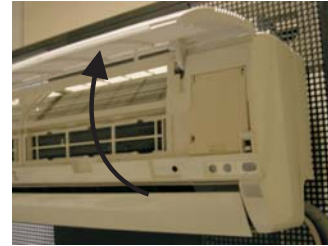

Fig. 2
2. Pull up the intake grille until it falls off. (Fig. 2)